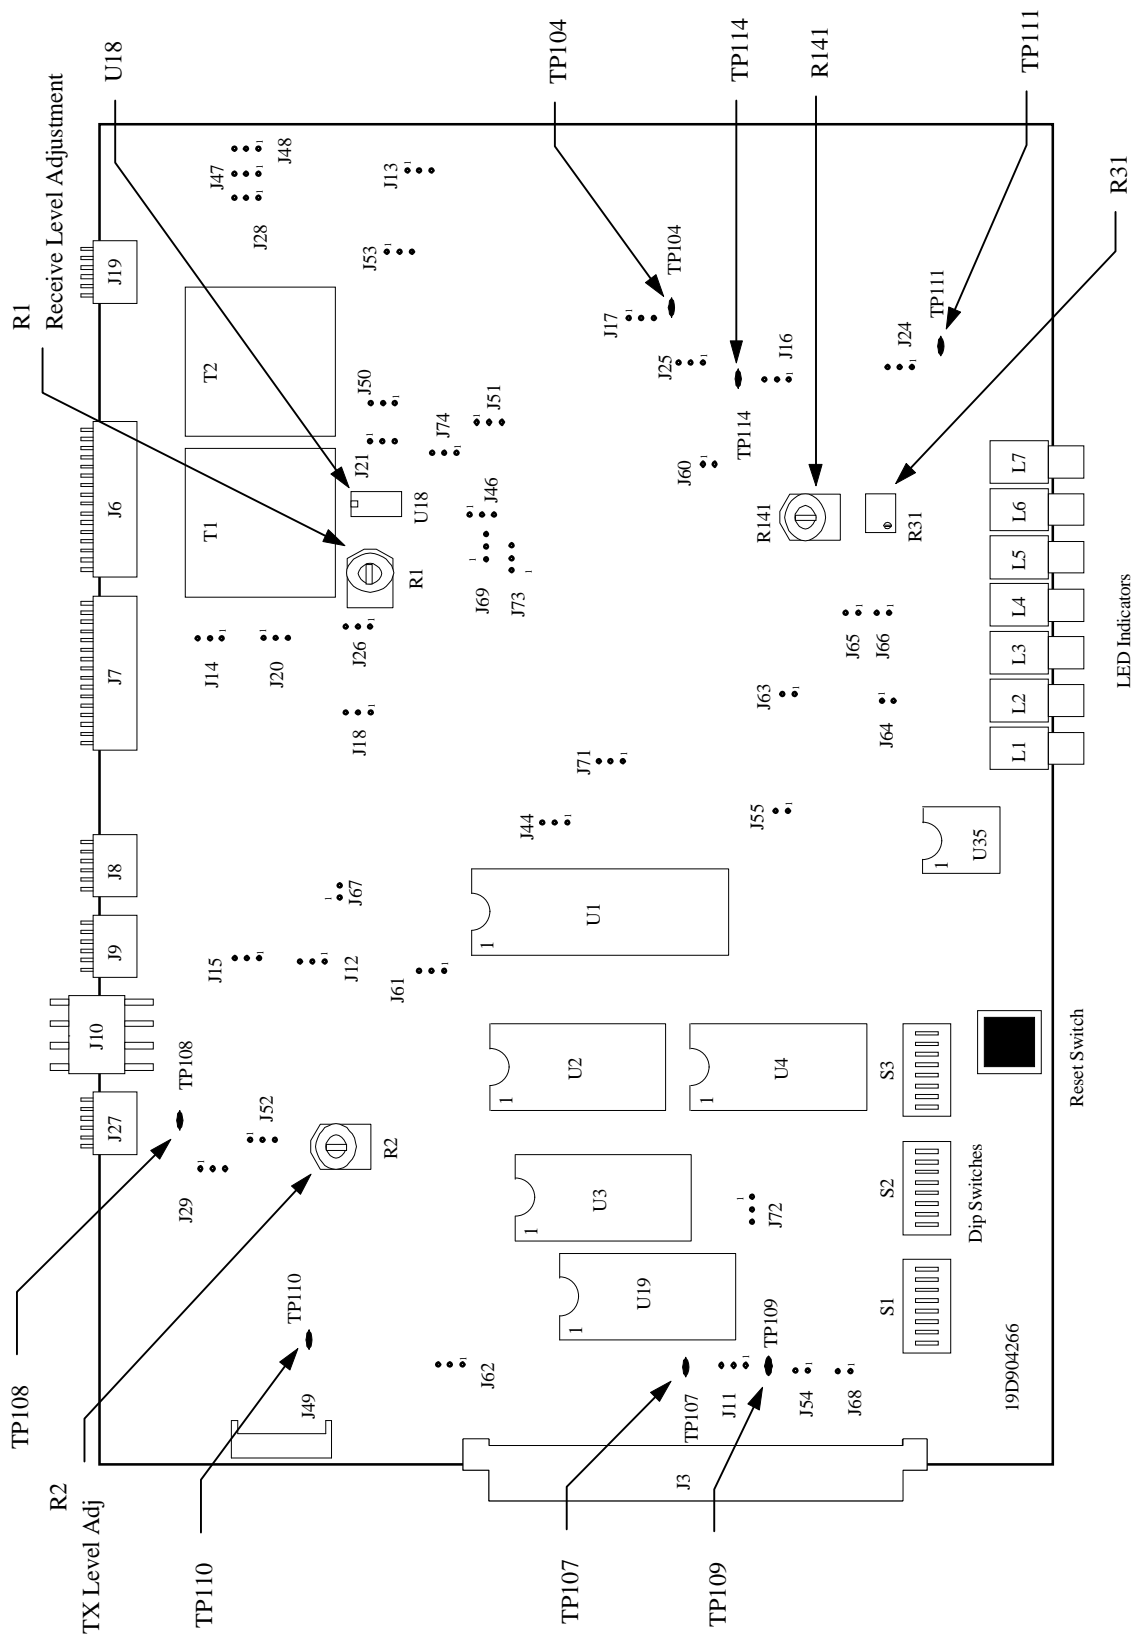
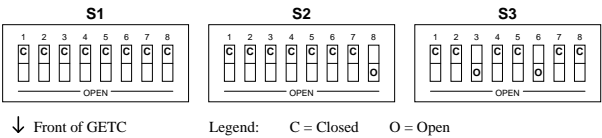

Figure 4 - Station GETC (19D904266) Jumper and Test Point Locations
Figure 6 - DIP Switch Settings
There are a few jumpers on the GETC Logic Board which must be re-configured for link applications. The specific jumper configuration depends on the type of Downlink GETC (Wideband or Narrow Band) or Uplink GETC. To properly configure the GETC jumpers, refer to jumper tables in SRN1061 and install or remove jumpers according the intended GETC application. The location of the jumpers may be found using the board layout diagram in Figure 4.
- 2. Set the GETC DIP switches S1, S2, and S3 for the programming mode as shown in Figure 6. DIP switches S1-S3 are located near the front of the GETC Shelf, see Figure 4.
- 3. Reset the GETC by either applying power or pressing the GETC RESET switch S4, see Figure 4, located just below the DIP switches. Resetting the GETC, in combination with the DIP switch settings, places the GETC into the Personality Programming mode.
The Link software requires proper DIP Switch settings for S1, S2, and S3. Refer to Figure 4, for the switch locations and SRN1061 for the switch settings.